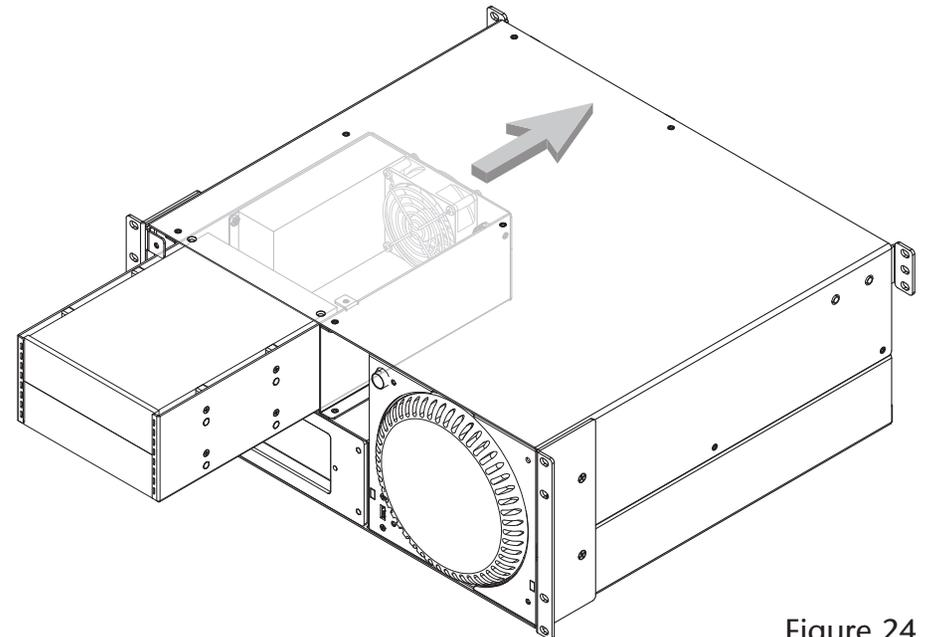

Figure 24
- Carefully slide the mobile rack device mounting kit into the rackmount enclosure until it stops (Figure 24).